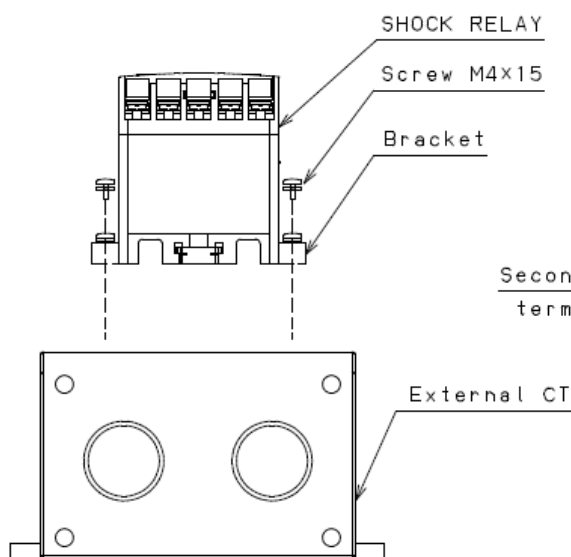

Figure 1
1. Install the SHOCK RELAY on the External CT with screws according to Figure 1.